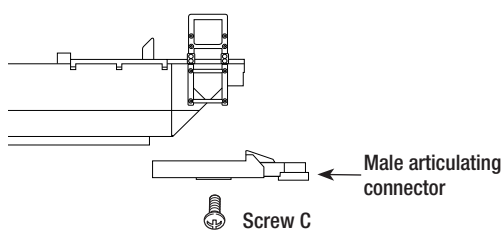

Figure 5. Installing the male articulated connector
- Install the male articulating connector using the phillips head screw removed in step 5. See figure 5.